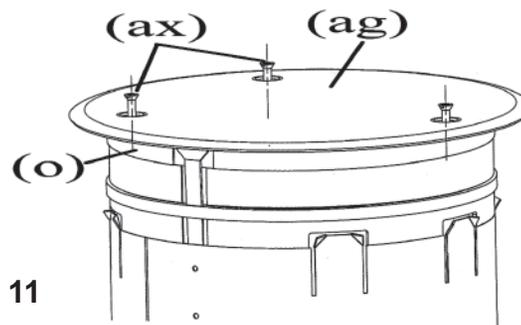

Fig. 11
2. Remove cover assembly by removing screws (ax) attaching cover to the can. See Figure 11.
- Retirer le couvercle en enlevant les vis (ax) rattachant le couvercle de la boîte. Consulter la Fig. 11.